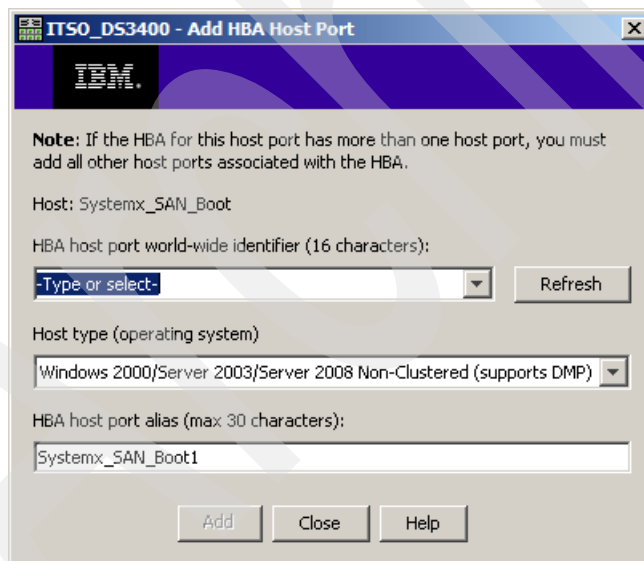

Figure 27-33 Add HBA Host Port
2. This launches the Add HBA Host Port window, as shown in Figure 27-33.